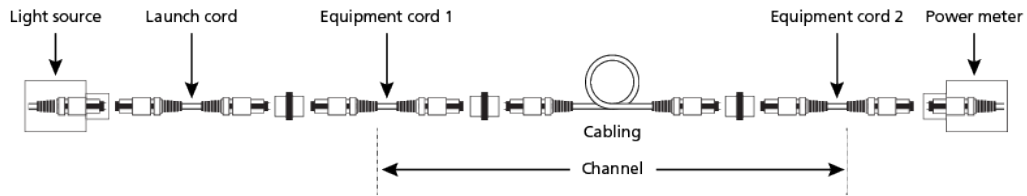

Figure 14. Measure attenuation of channel
4. Connect the LSPM, launch cord, and equipment cords (see Figure 14).